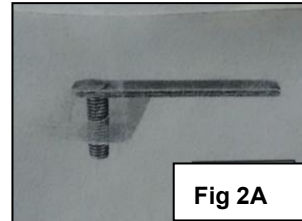

Fig 2A
2	Select (2) M10 Bolt Plates and (2) M10 Plastic Retainers, (Figure 2A) . Partially thread the Retainers onto the Bolt Plates. Note: The Plastic Retainer is designed to help hold the Bolt Plate in Place during Bracket installation.